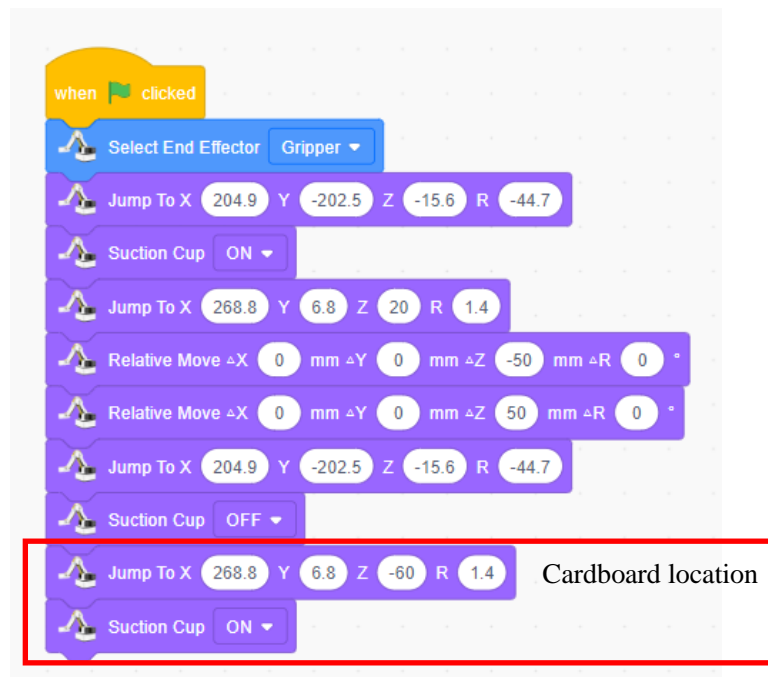

Figure 1.24 Sucking the paperboards
Step 5: Suck the certificate. Move the robotic arm to the certificate, and enable the suction cup to “suck”, as shown in Figure 1.24.